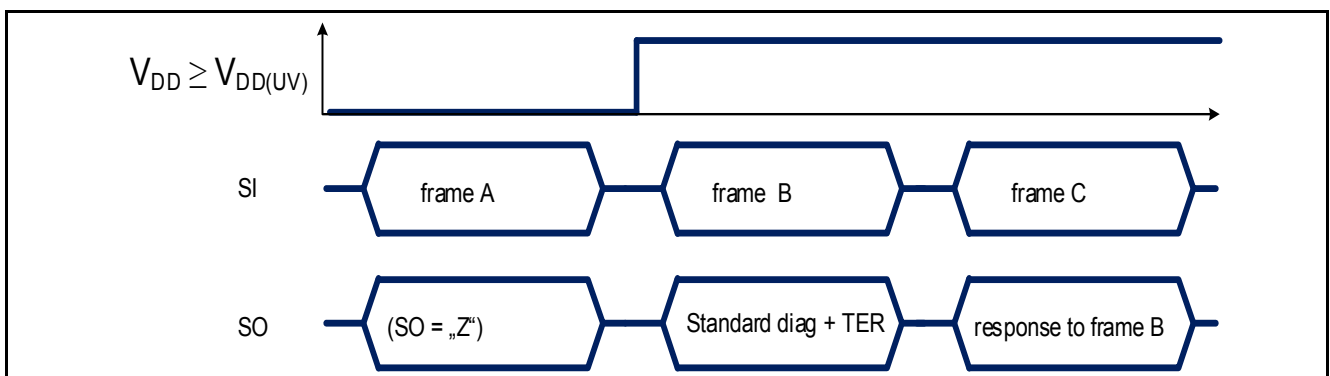

Figure 46 TLD5541-1 response after coming out of Power-On reset at V_{DD}
- when TLD5541-1 logic supply comes out of an Undervoltage reset condition ($V_{\text{DD}} < V_{\text{DD(UV)}}$) as shown in Figure 46 or $\text{EN/INUVLO} < V_{\text{EN/INUVLOth}}$